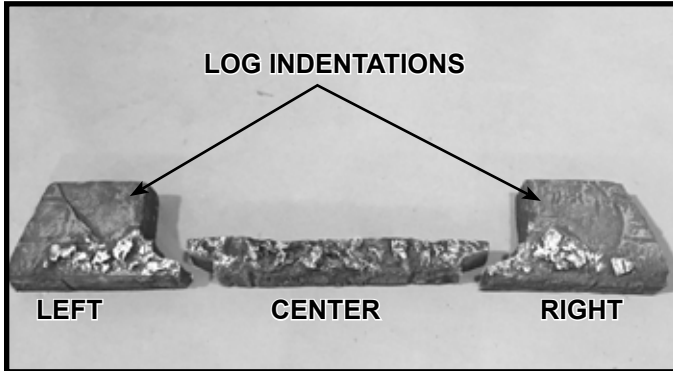

Figure 11.1 Hearth Components
The left, middle, and right hearth components are packaged in a separate box that is shipped inside the firebox. The three hearth components are shown in Figure 11.1.
3. Locate the right hearth component as shown in Figure 11.1. Install right hearth component by pointing its left tip at a slight angle as shown in Figure 11.4. When the right end of the middle hearth piece and the left tip of the right hearth component engage, gently place them in position. Push “down” on the indentation on the right hearth component to engage the screw tips at the bottom of the firebox.